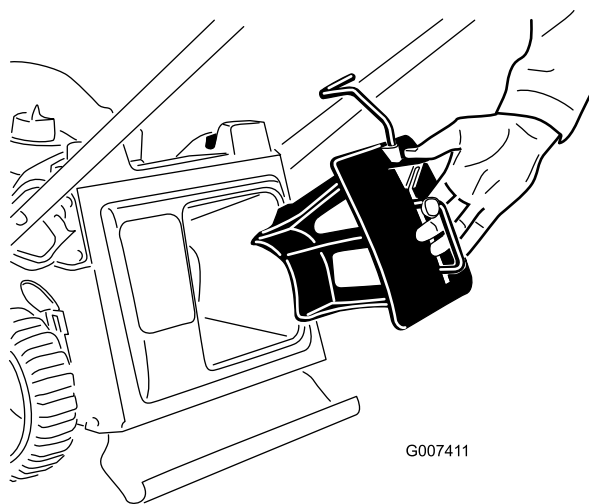

Figure 7
1. Insert the mulch plug into the machine if it isn't already installed (Figure 7).